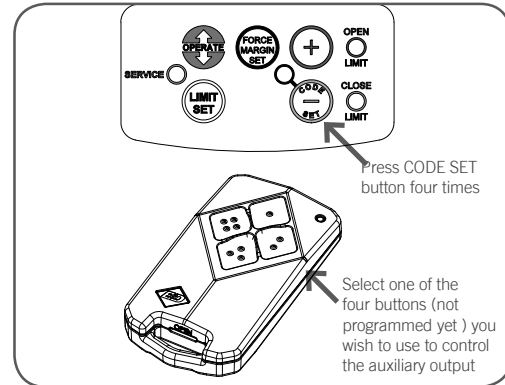

Fig.16
- Press CODE SET button four times. The CODE SET LED will illuminate and the courtesy light will flash quickly (**Fig. 16**).